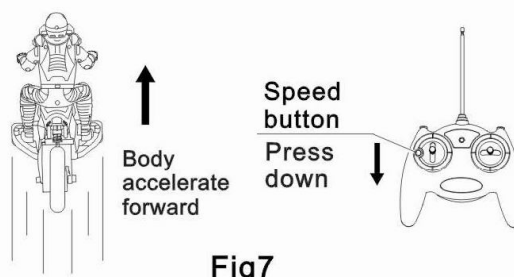

Fig7
- 2.When the body moving forward, press the "speed button", body speed driving. (Figure 7)